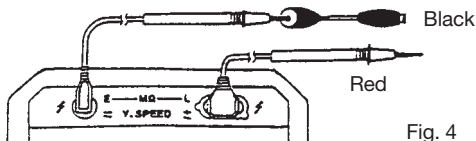

Fig. 4
2. Connect the black plug of the black test lead to the E terminal on the left and the amber plug of the red test lead to the L terminal on the right as shown in Fig. 4.